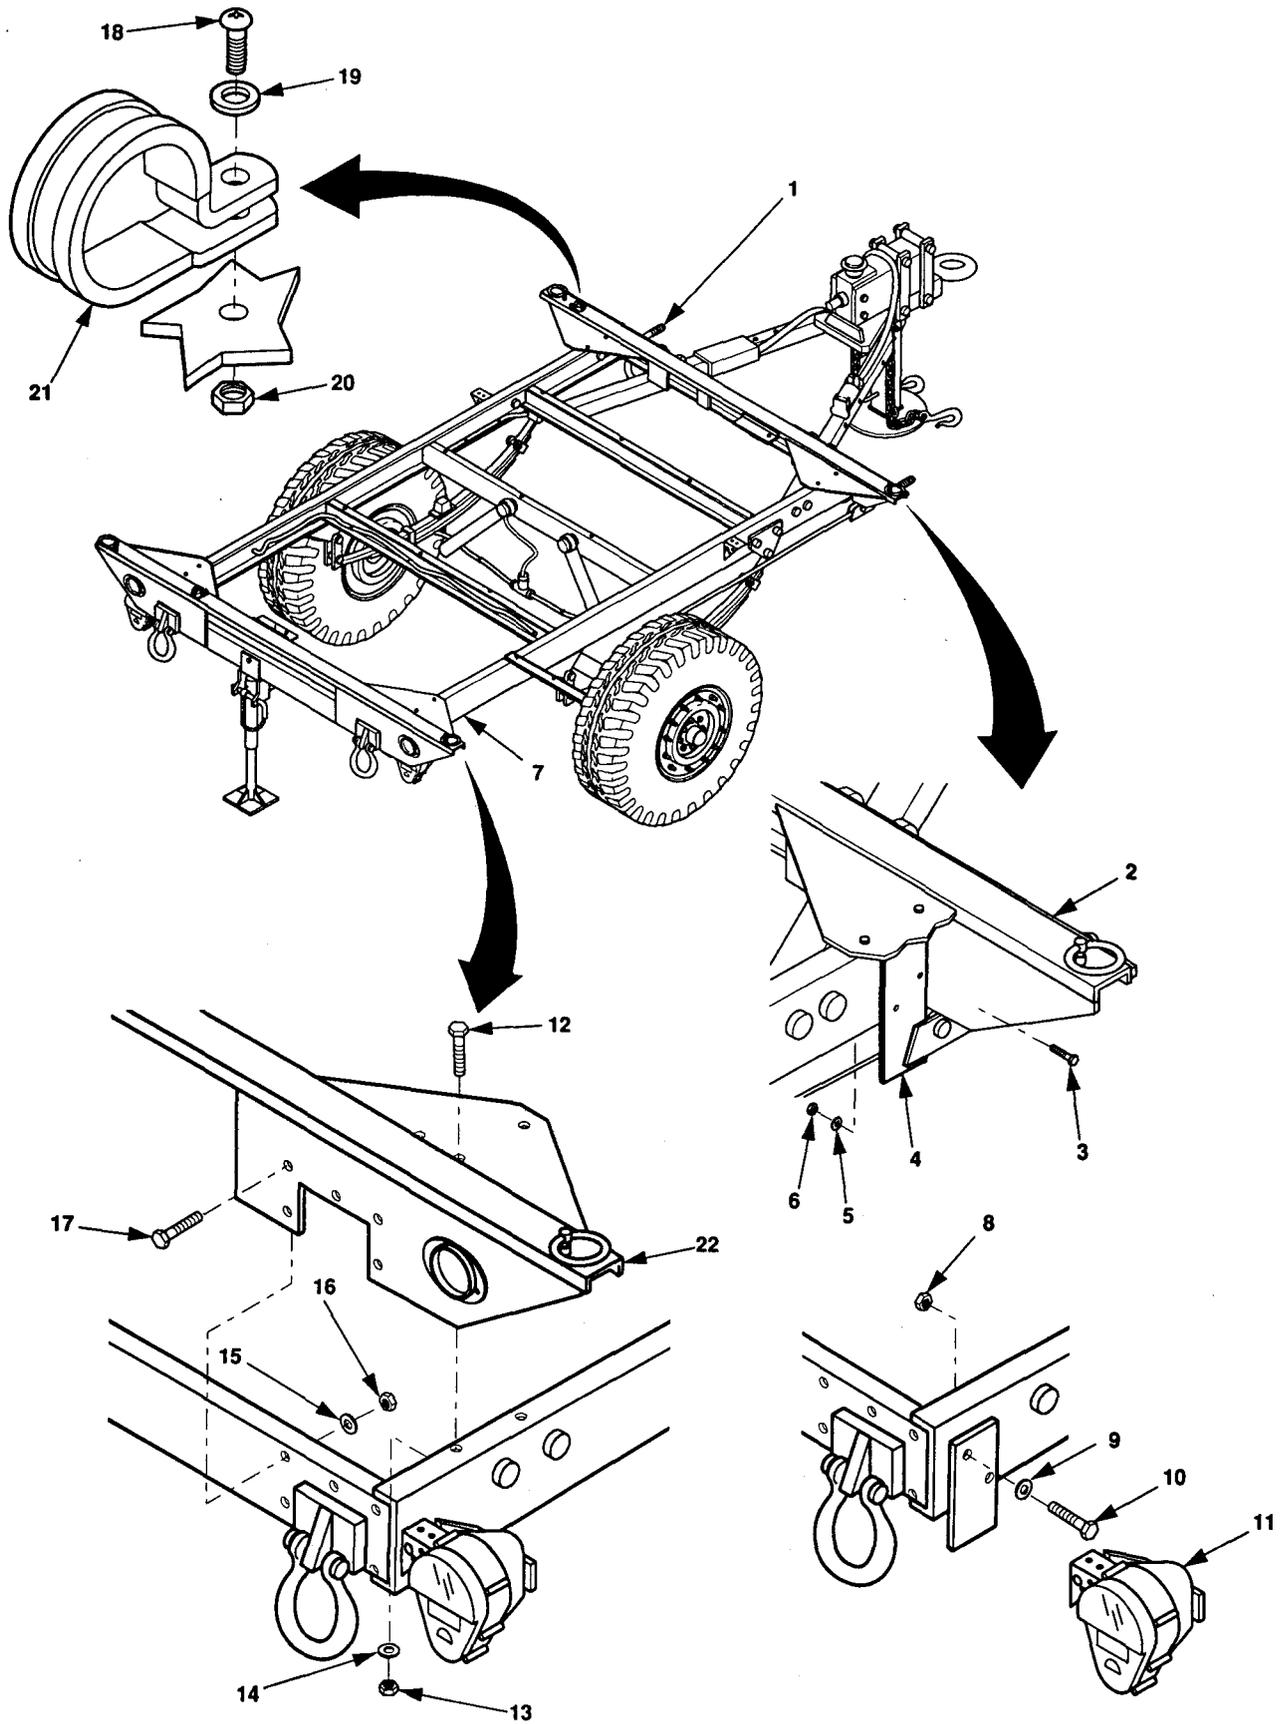

Figure 5-24. AN/MJQ-35 Trailer Lifting Bracket.
- b. Separate the tail light bracket (11) from trailer chassis by removing two self-locking nuts (8), flat washers (9), and screws (10).
- c. Separate the power cable from rear lifting bracket (22) by removing nut (20, figure 5-24), flat washer (19), and screw (18) from cable clamp (21).
- d. Remove ten self-locking nuts (16), flat washers (15), and cap screws (17) from rear lifting bracket (22).